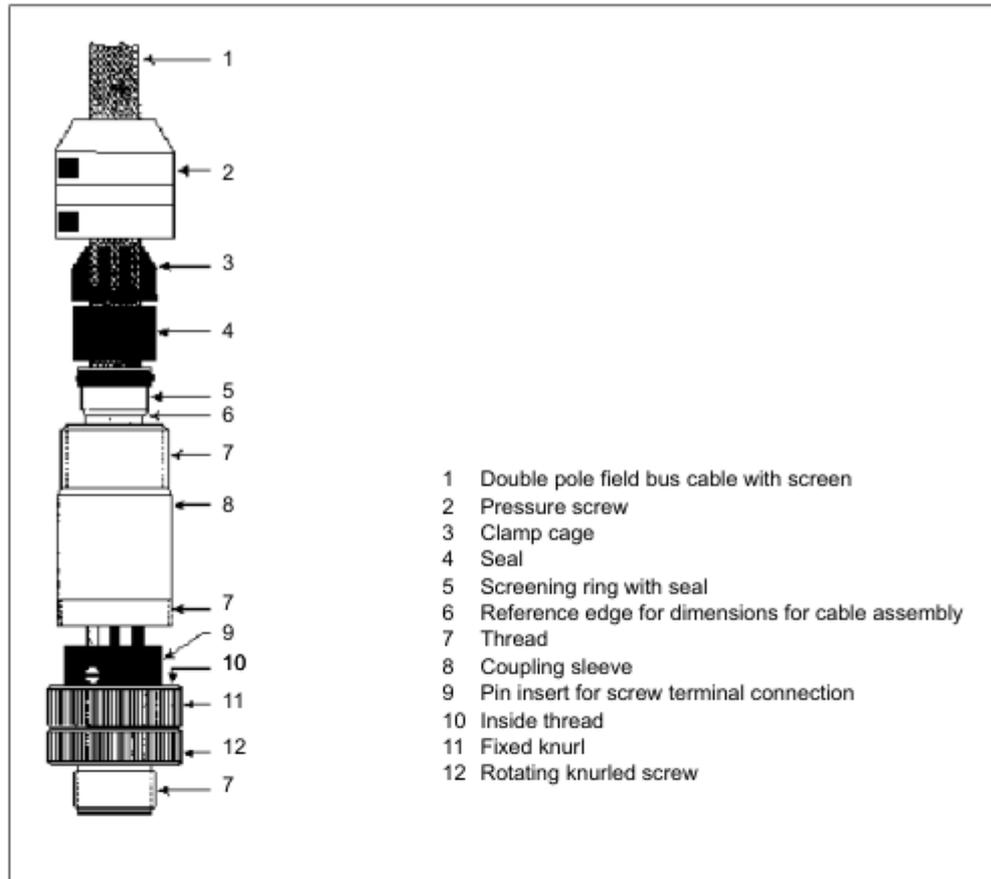

Figure 37 Components of the M12 bus connection
1. Thread the pressure screw, clamping cage, seal, screening ring and coupling sleeve onto the field bus cable, see Figure 37, page 92